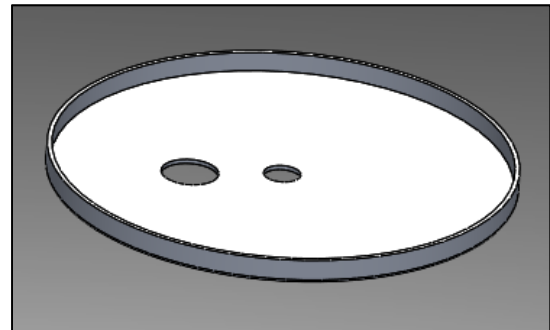

FIG. 3 - CANOPY
- a. CANOPY (as shown in FIG. 3)